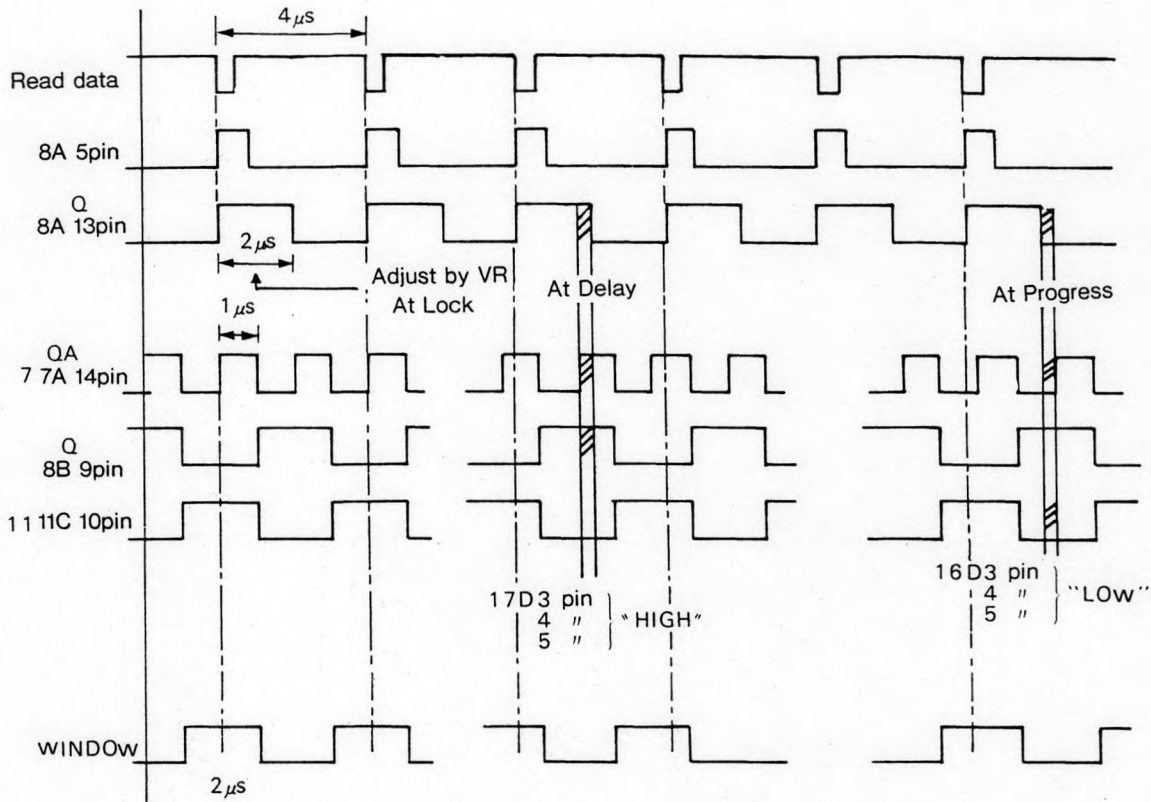

Fig. 2-23 Timing Chart of VFO Circuit on TFX Board
Fig.2-23 shows the waveforms at various points.
The trailing edge timing of read data is output in pulse from pin 5 of 8A by the operation of the one-shot multivibrator.From pin 13 of 8A,one-shot pulse with 2μ s pulse width from the reading edge of pin 5 of 8A is output as shown in Fig.2-23.
The multivibrator of 10B vibrates at 1MHz,and a clock output of 1μ s pulse width is made from pin 14 (QA) of 7A as shown in Fig.2-23. Pin 9(Q) of 8B latches the state of pin13 of 8A at the trailing edge of QA pulse.